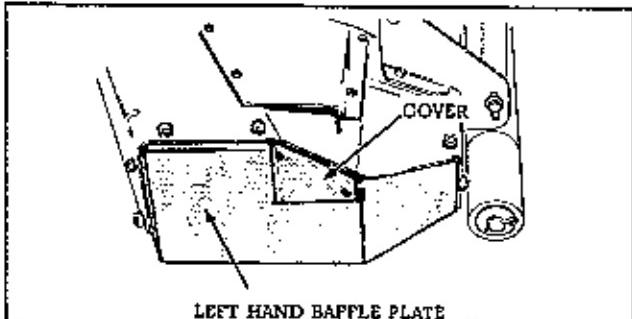

FIG. 4
- Remove the guard assembly from the discharge opening of mower housing. Install the Left Hand Baffle Plate as shown in Figure 4. This baffle is held in place by 7 carriage bolts, lockwashers, and hex nuts. Note that the lockwashers and nuts are on the exterior of mower housing.